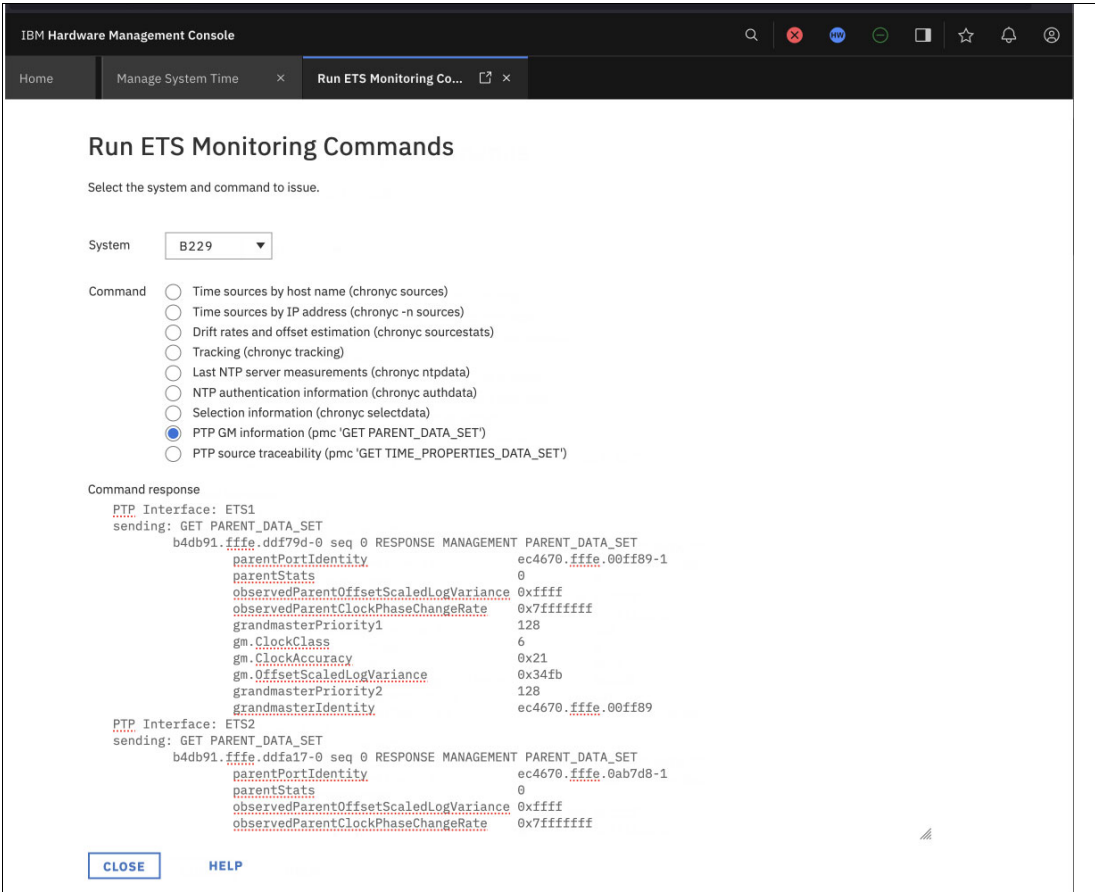

Figure 4-56 PTP Grandmaster information
8. PTP Grandmaster server information is shown in Figure 4-56.